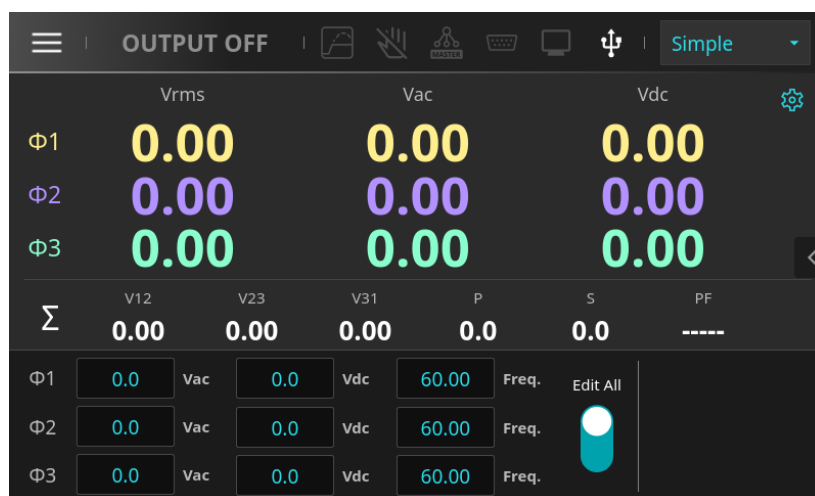

Figure 4-13: Updated measurement parameters on the main screen in three-phase mode (Simple mode page)
4. Press the “CONFIRM” button to return to the main screen. The measurement parameters will be updated accordingly, as shown in Figure 4-13.